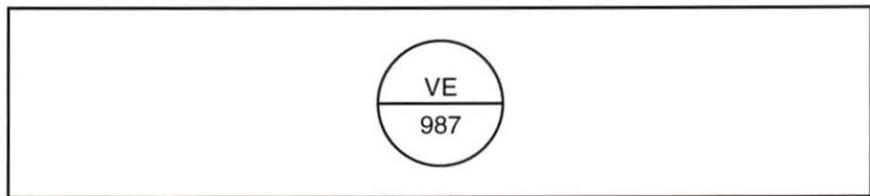

Figure 69. Instrument Tag
9. Determine the measured variable and function of the device using the instrument tag in figure 69.